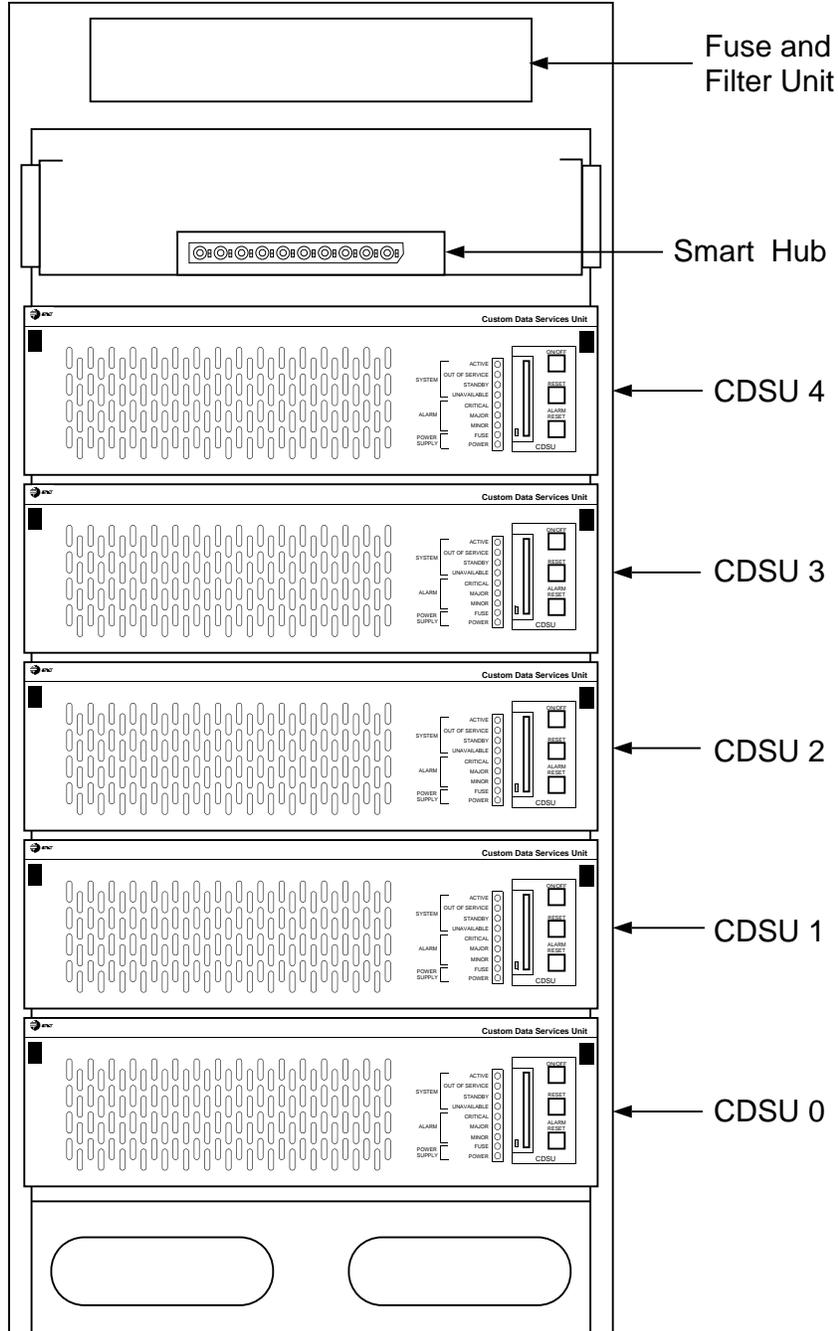

Figure 10. CDSC-I (J4A024C-1)
- Custom Data Services Cabinet (CDSC-I) (J4A024C-1) (Figure 10)